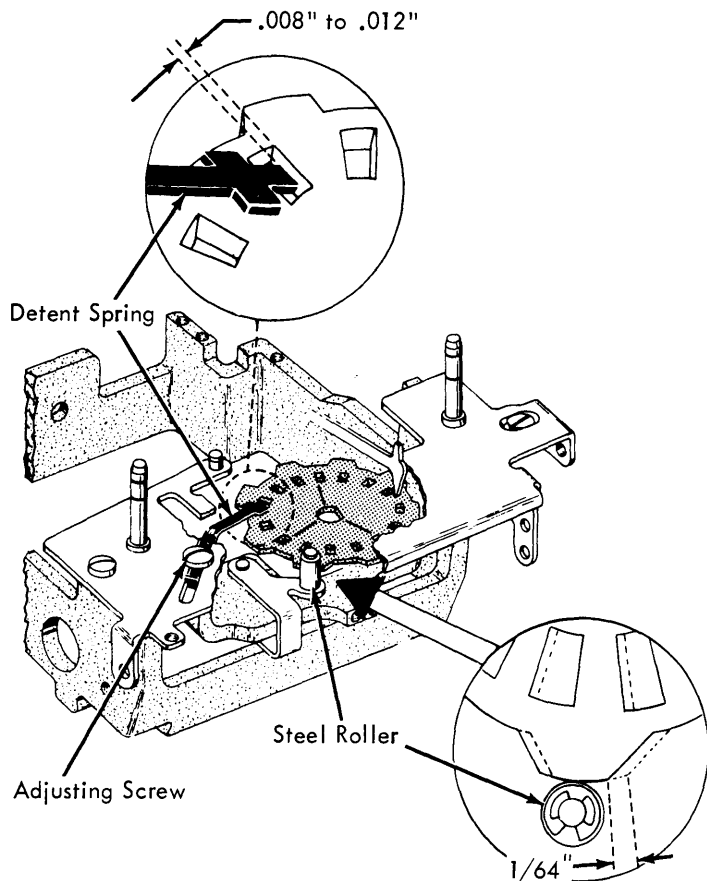

FIGURE 192. Feed & Lift Wheel Detent Spring
3. Detent Spring - Adjust the feed and lift wheel detent spring in its slot so that during a ribbon feed operation the detent spring will drop into the next feed window .008" to .012" before the feed and lift wheel completes its travel (Fig. 192).